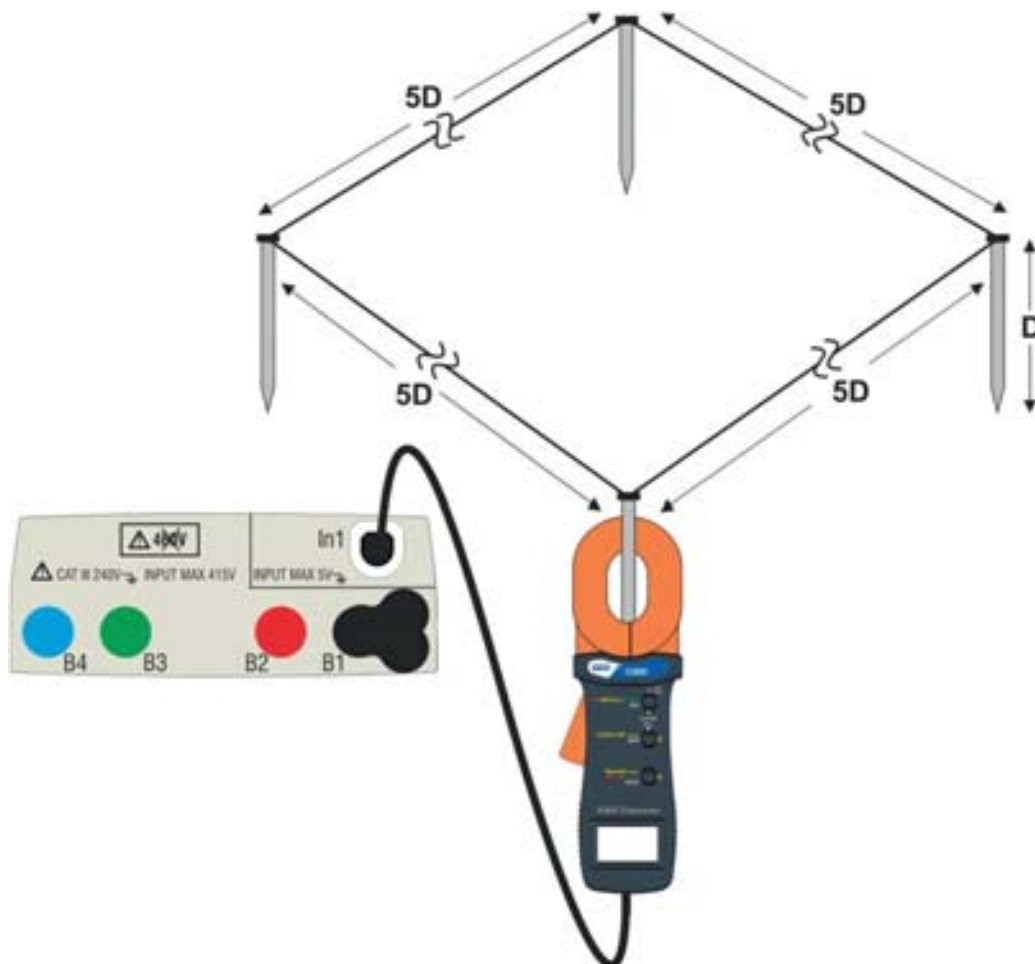

Fig. 32: Resistance measurement of single rods with clamp T2100
The measurement carried out by clamp T2100 can be used to evaluate single rods resistance values within an earth installation without disconnecting the rods, **assuming they do not affect each other** (see Fig. 32).
4. Connect the clamp to the first rod of the earth network considered as shown in Fig. 32. Note the value of the resistance in the **R** field and press the icon to insert this value in the calculation of parallel resistance and increase the **N** parameter by one unit (**N**=1)